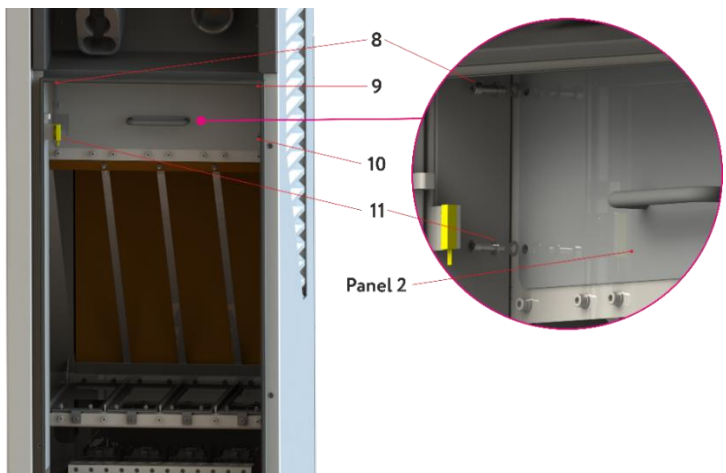

Figure 5.17. Access to the module connection compartment
9. Remove the fasteners 8-11 and remove the protective Panel 2 (fig. 5.17).